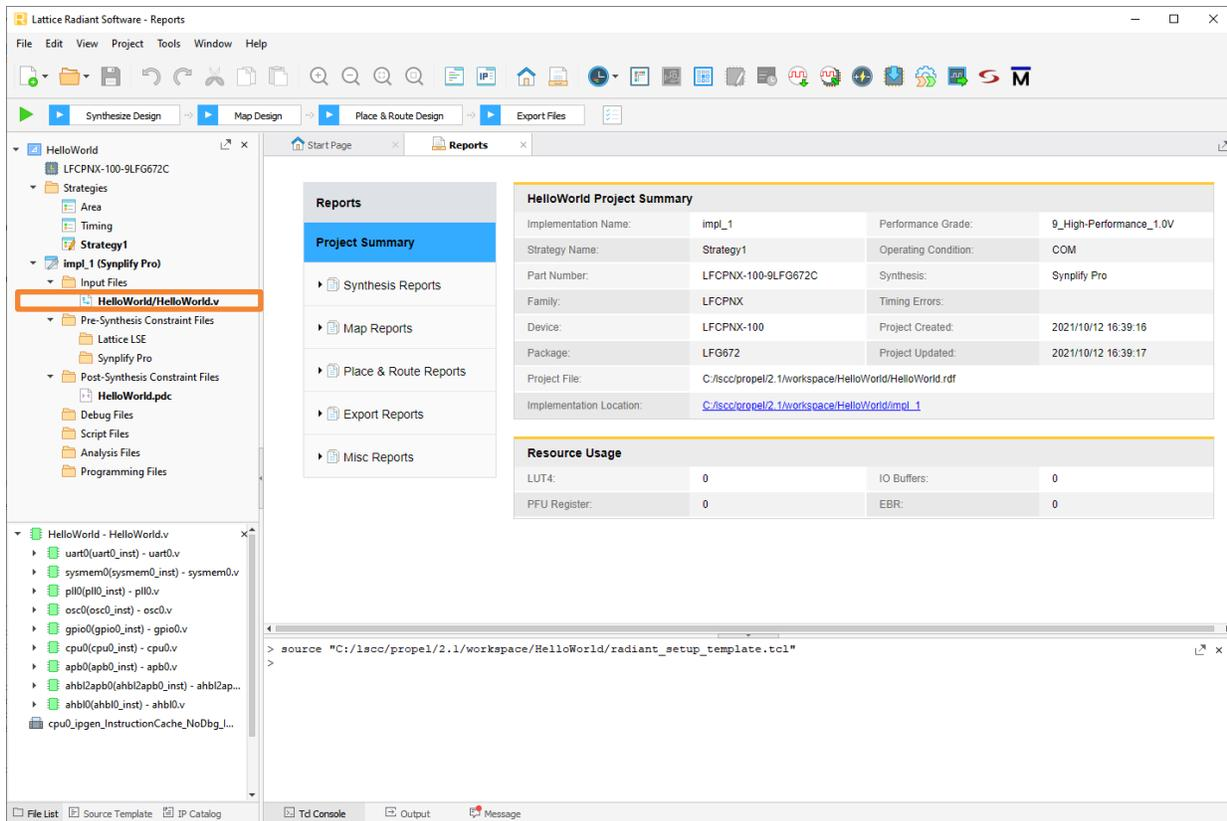

Figure 2.80. Radiant Project for Project before Propel Builder 2022.1
- Ipx based Radiant implementation flow is for project created in later than Propel Builder 2022.1. For project created before Propel Builder 2022.1, use a different method for exporting files. If you want to use ipx flow in these old projects, open them in P2022.1 and regenerate, then export to Radiant to change how it is exported to Radiant. (Figure 2.80).